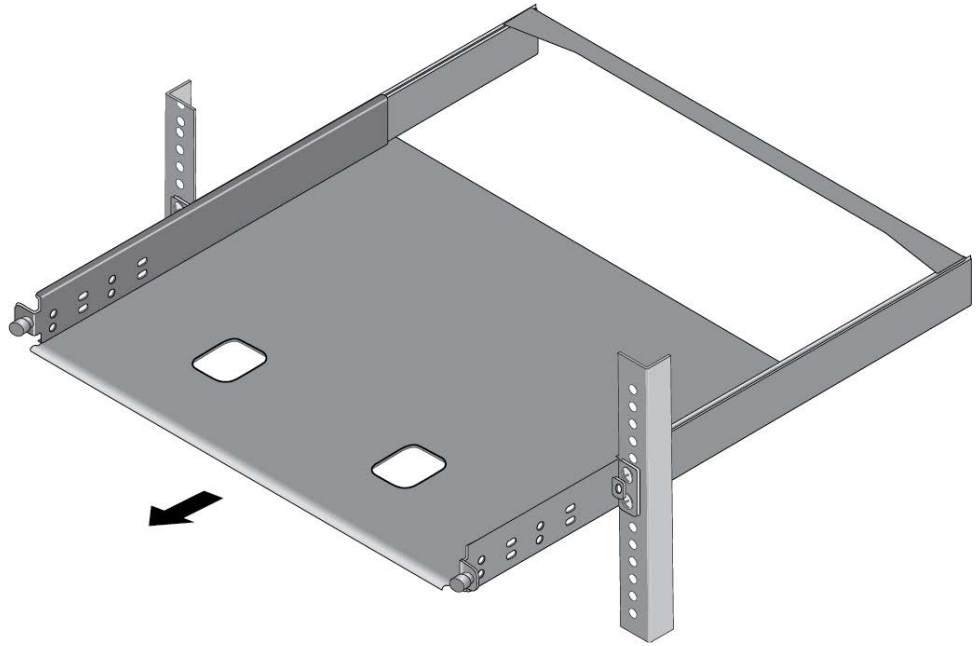

Figure 40. Sliding Out the Bracket of the RKMT-J15
- Slide out the bracket tray. Refer to Figure 40.